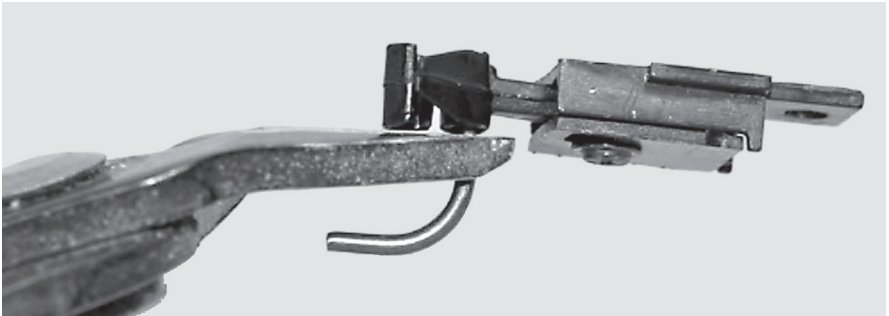

Figure 28 - Snip the uncoupling pin flush with the bottom of the coupler
9. Use cutters to snip the uncoupling pin flush with the bottom of the coupler. See Figure 28. The coupler will now fit into the snowplow. The remainder of the uncoupling pin will keep the coupler halves together so that they will function correctly. Again, you will no longer be able to use a magnetic uncoupling system.